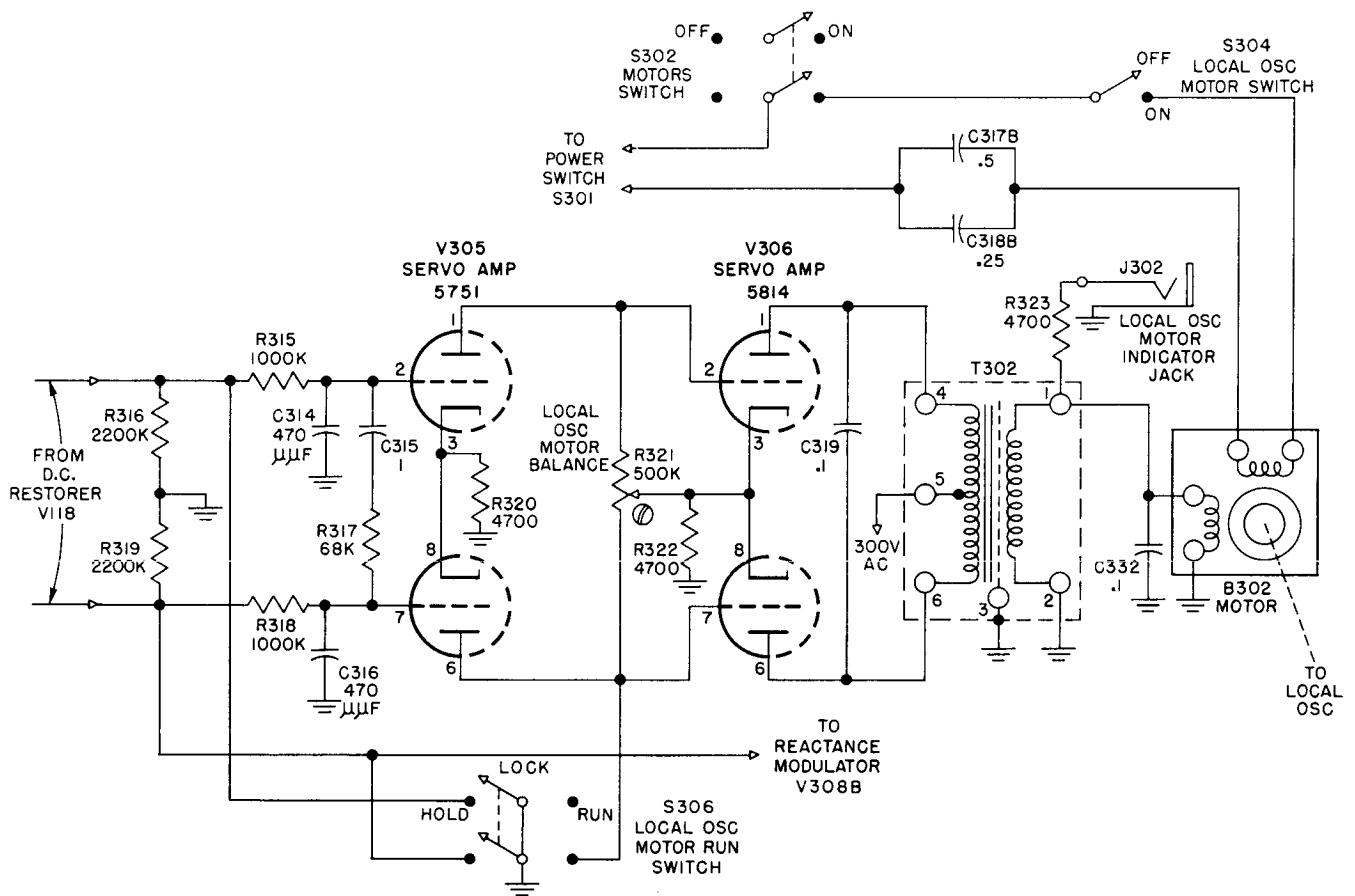

Figure 2-17. Servo Amplifiers V305 and V306 and Motor B302, Simplified Schematic Diagram
(7) SERVO AMPLIFIERS V305 AND V306. (See Figure 2-17.)—DC restorer V118 is coupled to servo amplifier V305 through the filtering circuit consisting of resistors R315 and R318 and capacitors C314 and C316. The function and operation of the servo amplifier circuit, which consists of servo amplifiers V305 and V306, is exactly the same as for the tuning (225-kc.) oscillator servo and motor circuit. See paragraph 2h(5), Section 2. All corresponding components in the two circuits have the same value except for the anti-hunt circuit capacitor. The smaller value of capacitor C315 gives the local oscillator anti-hunt circuit a smaller time constant.